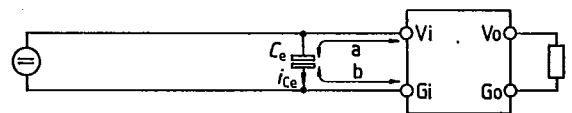
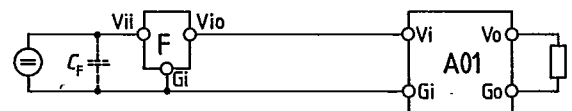

Fig. 21
Fig. 22
in case A01, see Fig. 22
If the input line length exceeds 500 mm, an external (electrolytic) input capacitor  $C_e$  with a capacitance value of at least  $100 \mu\text{F}$  must be connected across the switching regulator input terminals  $V_i$  and  $G_i$  (Fig. 21). However, the connection line lengths  $a + b$  together must not exceed 500 mm twisted or 300 mm untwisted.
As shown in Fig. 22, a Melcher input filter can be wired into the input lines in place of capacitor  $C_e$  in Fig. 21.
However, if switching regulators are to be used without option L, an external capacitor  $C_e$  may be necessary (Fig. 21). See page 12 "4.2 Long Input Lines". If a capacitor is connected directly across input terminals  $V_i$  and  $G_i$ , a maximum current of  $2.6 A_{RMS}$  (about 150 kHz) will flow; in the case of an input line length  $a + b = 400 \text{ mm}$   $1.5 A_{RMS}$  at the most. The capacitor must be capable of handling this current.
- Introduce an external capacitor  $C_e$  between  $V_i$  and  $G_i$  (Fig. 21) with a capacitance value of